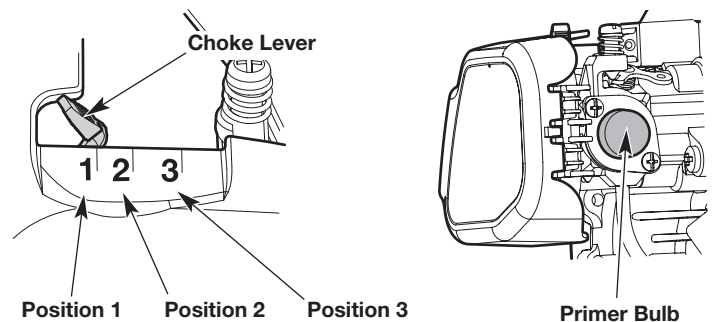

Fig. 9
3. Slowly press and release the primer bulb **10 times** (Fig. 9). If fuel cannot be seen in the primer bulb, press and release the primer bulb until fuel is visible.
4. Move the choke lever to **Position 1** (Fig. 9).
7. Continue to squeeze the throttle control. Move the choke lever to **Position 2** (Fig. 9).
10. Continue to squeeze the throttle control. Move the choke lever to **Position 3** (Fig. 9). Allow the engine to warm up for an additional 60 seconds. The unit may be used during this time.